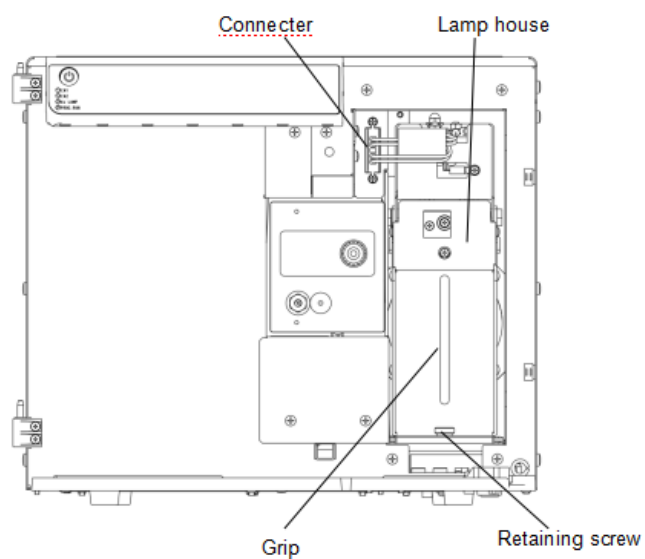
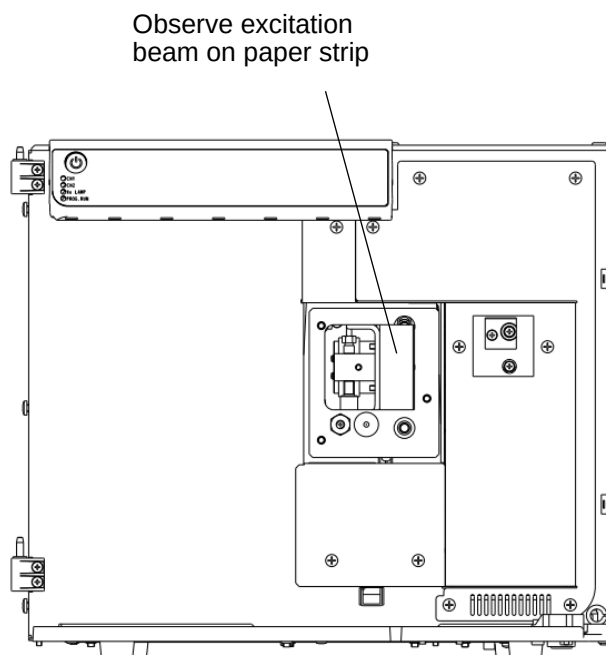

Fig.8-2 Removing the socket and fastening screws
Fig. 8-10 Observation of the excited beam
- ⑩ After mounting the Xe lamp in the lamp house, assemble it into the main body (Fig. 8-2).
- ① Power on
- ② In this state, take out the flow pool (Figure 8-2)
- ③ Set the excitation wavelength at 550 nm and the emission wavelength at 350nm.
- ④ In this state, as shown in Figure 8-10, place a piece of paper at